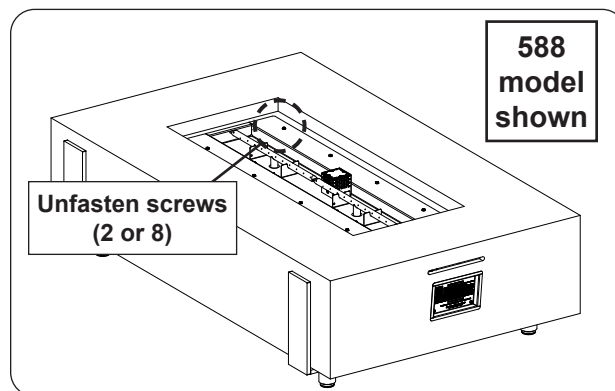

Fig. 30-1 Gain access to interior of unit
1. Use a $\frac{5}{16}$ " nut driver to loosen the 2 screws found on the burner assembly (see Fig. 30-1). Then proceed to step 3.
2. Use a $\frac{5}{16}$ " nut driver to loosen the 8 screws found on the burner assembly (see Fig. 30-1).